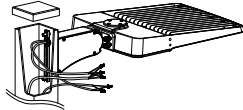

Figure 2-2
Step2: Fix the fixture on the pole after passing the input wire of the fixture through the pole and then connect the input wires to the mains properly, Figure 2-2;